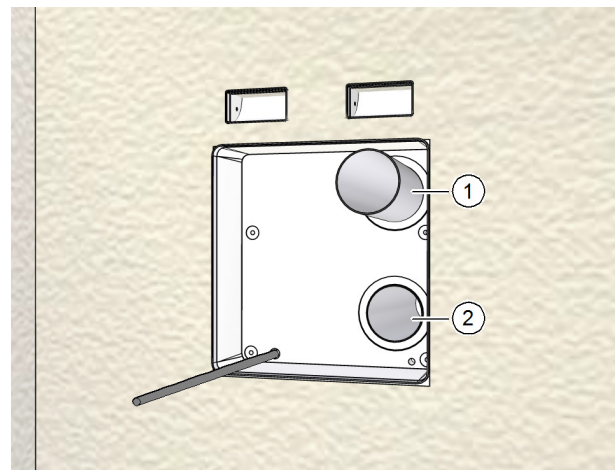

Fig. 26: Inserting the ventilation pipes
- ▶ Push the two ventilation pipes (item 1 in Fig. 26) into the openings in the wall box until they end flush (item 2 in Fig. 26).